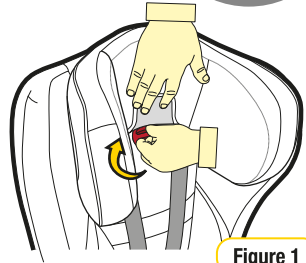

Figure 1
Step 2: To adjust the headrest, lift the "TWIST & LIFT" flap on the headrest cover. Turn the red "TWIST & LIFT" knob clockwise to unlock the headrest (refer Figure 1).